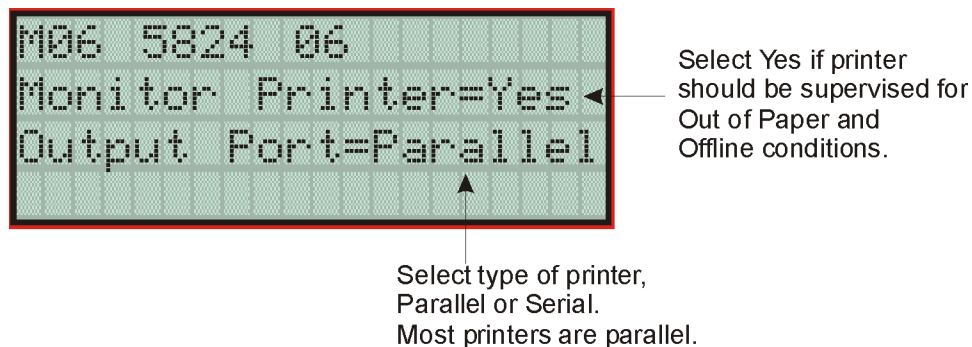

Figure 4-16 Selecting Printer and Output Port Options
5. Press **ENTER** **ENTER** to bypass the next two screens. A screen similar to the one shown in Figure 4-16 will display.